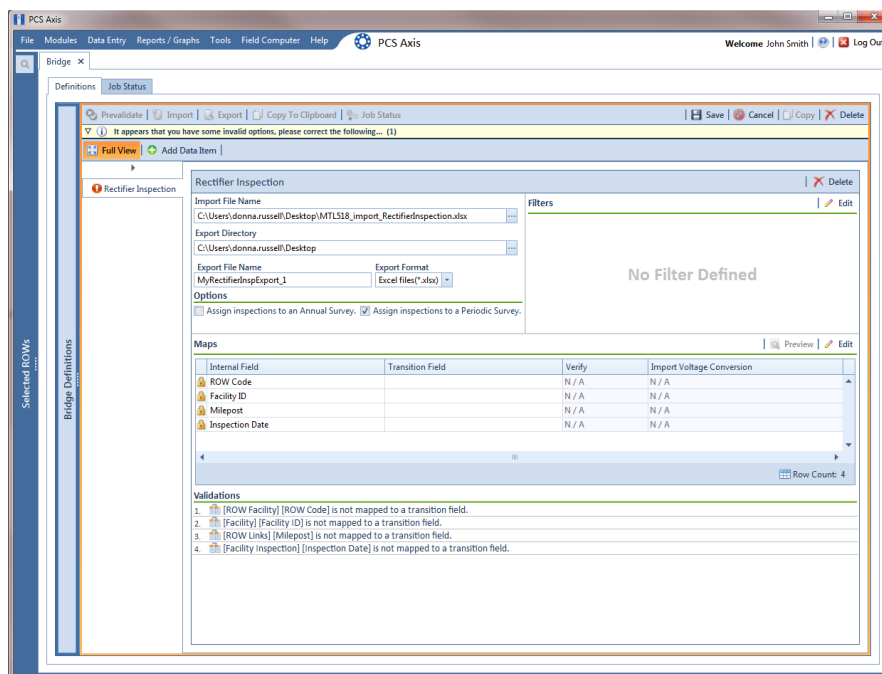

Figure 10-48. Bridge Import Export
- 14 Select a file format and a location to save the export file using the following steps (Figure 10-48, page 535):
- 15 If you want to assign inspections in the import file to a survey folder based on the inspection date, complete one or both of the following steps in the *Options* group box as required (Figure 10-48, page 535).